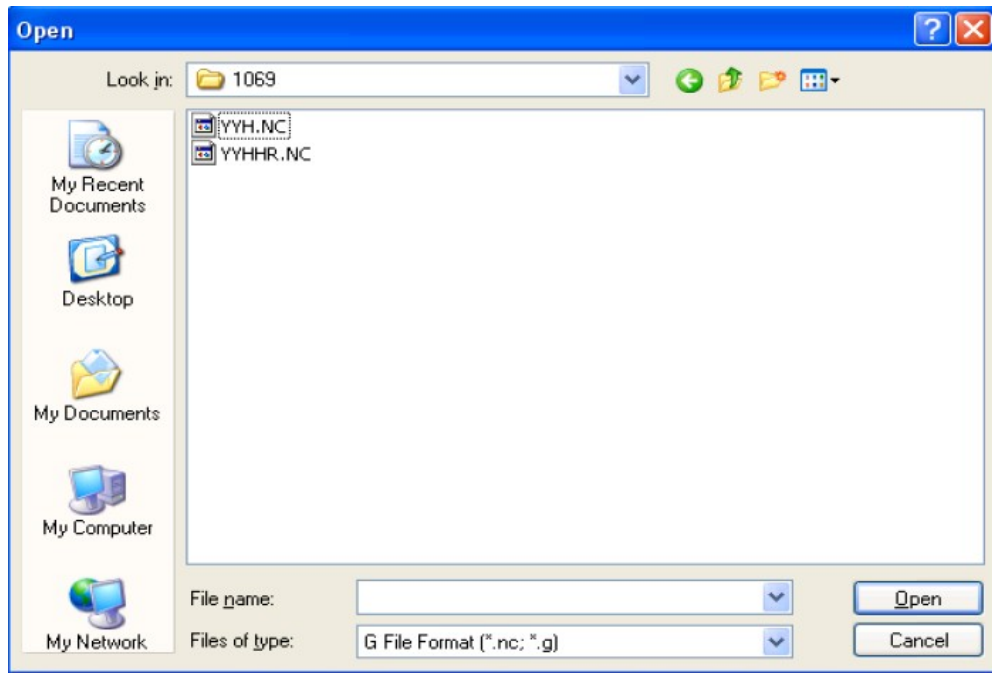

Fig. 10-21 [Open G code format files] dialogue
- Select [Import G code file] under [File] menu, [opening file dialogue] will pop up, as Fig.10-21.